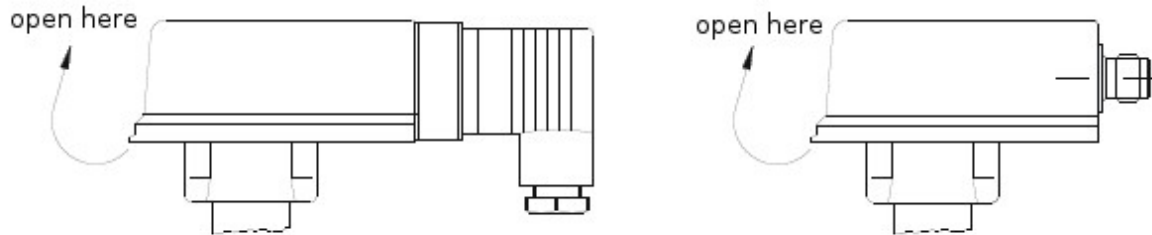

Fig. 14
## Adjusting the Switching Unit (Figs. 14 to 16)
- To adjust the switching unit, the cover of the switch head must be opened (Fig. 14).